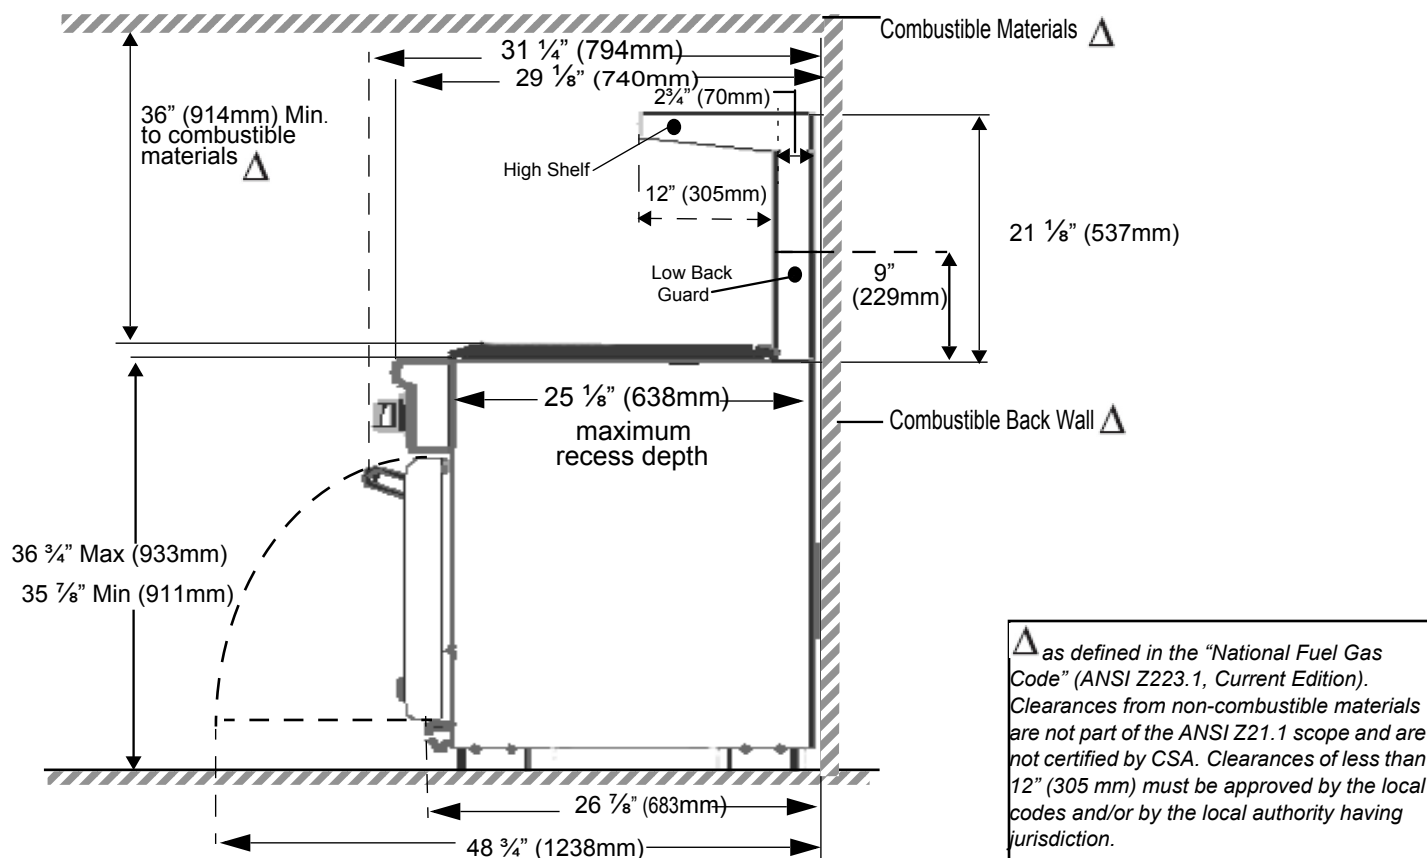

Figure 2: Installation Clearances with High Shelf or Low Backguard
- The range should not be recessed into the cabinets beyond the edge of the front face of the oven (see *Figure 2 on page 6*).